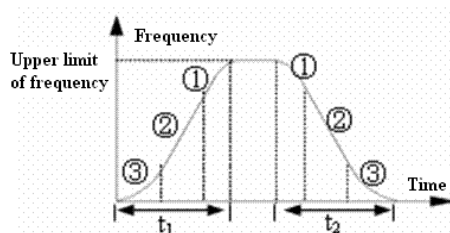

Fig.4-5 S-shape curve
Output frequency increases or decreases according to a S-shape curve, as shown in Fig.4-5.
Low speed time of S ramp is shown in Fig.4-5 as ③, where the changing rate of output frequency increases for 0.
Linear time of S ramp is shown in Fig.4-5 as ②, where the changing rate of output frequency is constant.
High speed time of S ramp is shown in Fig.4-5 as ①, where the changing rate of output frequency increases from 0. High speed time = $100\% - P0.14 - P0.15$.